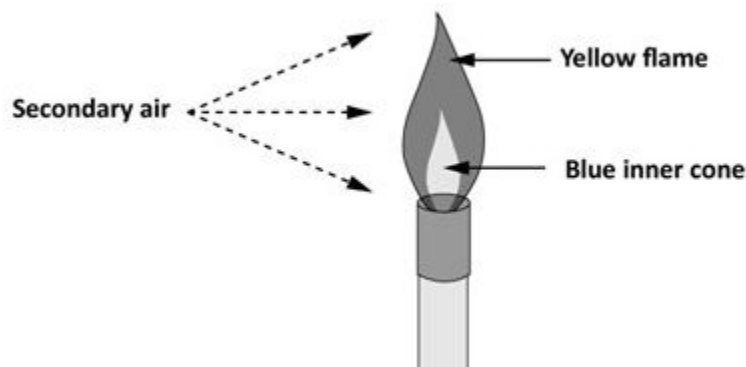

Figure 1 Luminous flame
- Figure 1 “Atmospheric burner” by Camosun College is licensed under a CC BY 4.0 licence
A luminous flame burner does not premix gas and air before ignition and consequently the flame depends upon the air around the flame (secondary air) for combustion. When the gas is heated inside the flame without air, the hydrogen and carbon particles separate. The flame has a small blue inner cone created by the hydrogen burning at a greater speed and a lower temperature than does carbon. The slower burning carbon, because of their higher temperature, produce an incandescent light creating a large glowing yellow flame (Figure 1). This type of burner is used in decorative appliances and appliances that are designed to give off light.